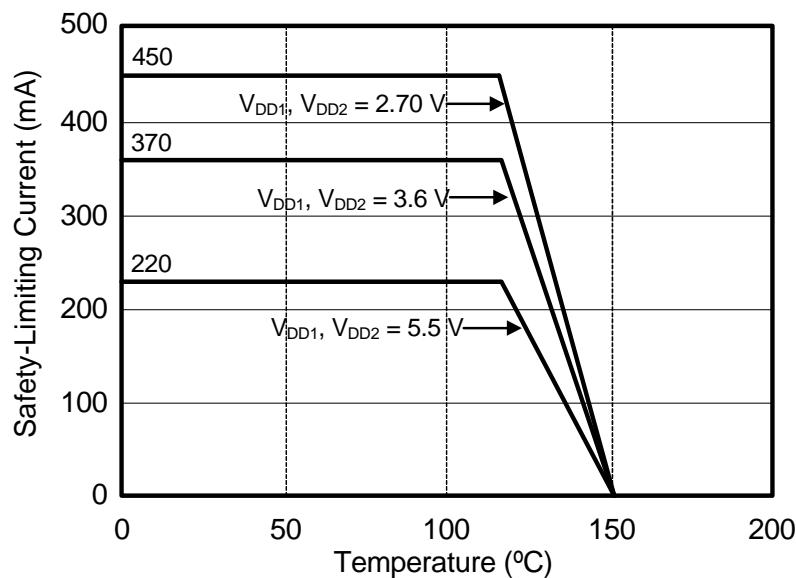

Figure 3. (WB SOIC-16) Thermal Derating Curve, Dependence of Safety Limiting Values with Case Temperature per DIN EN 60747-5-2
- 1. Maximum value allowed in the event of a failure; also see the thermal derating curve in Figures 3 and 4.